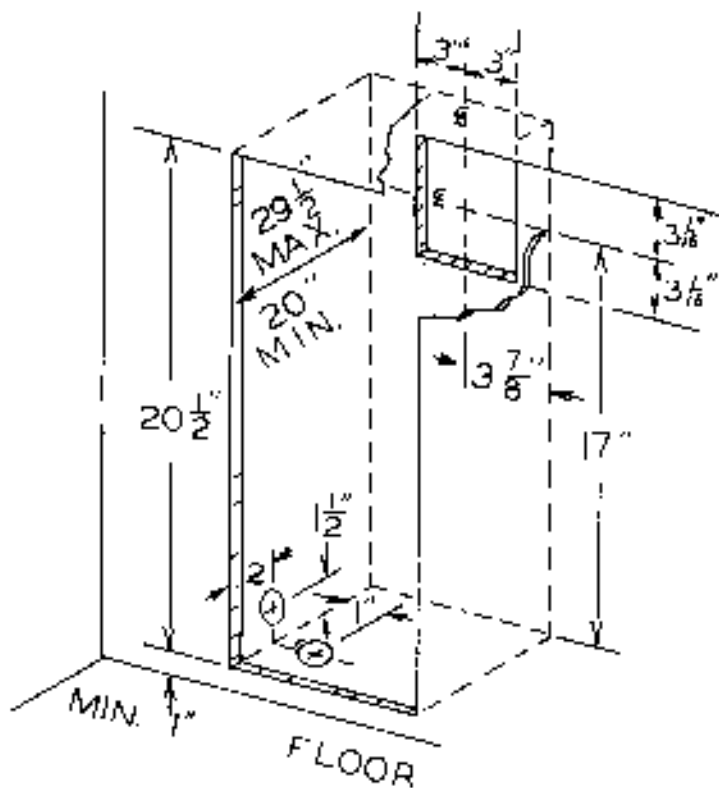

FIGURE 1
- B. Refer to Fig. 1. The 1" minimum dimension is to mount the heater flush with the floor. The heater may be mounted higher on the wall if desired. The 29½" maximum and 20" minimum enclosure thickness must be maintained in order for the vent tubes to overlap properly.
- C. Now cut the rectangular opening shown in Fig. 1 in the inside finished wall only. Cut the 6⅞" × 6" hole in the outside wall only. Cut only one of the two 1" dia. holes shown for the gas line.